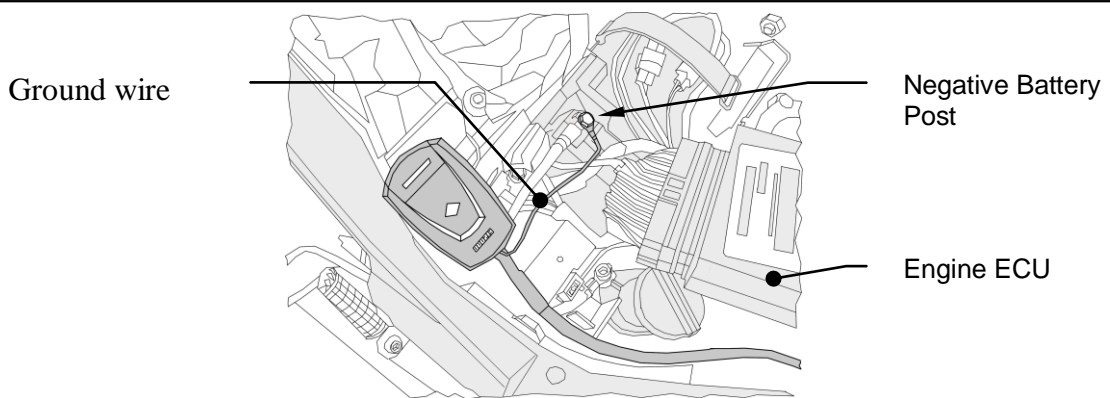

FIGURE 3
4. Unstrap the stock ECU from it location and move to the side to allow access to the battery post. Connect the Fi2000R's ground lead to the *Negative* battery post, (Fig. 3.)
6. Remove the door from the Fi2000R module to expose the LED's. Verify the wire connections by (1) turning on the ignition while watching the 3 LED's. They will all light up for a few seconds, and then go off. This is correct. If you don't see lights, make sure the side stand is up, bike is in neutral, clutch is in and handle bar engine switch is set to run. If you still have no lights, re-check that all connectors are fully engaged and the ground wire is connected correctly. (2) After achieving a steady light from all three LED's, start the motorcycle, the green light should now be the only LED on. If all three LED's are still on after start up, verify you have attached the injector connectors correctly. Reattach the access door when finished. **Note:** Make sure the ignition is turned off before changing any connection.
7. When everything checks out in order, mount the ECU to the stock location and mount the Fi2000R to the top of the ECU with the supplied Velcro, (FIG 3). Zip tie the Fi2000R harness to the right frame rail and existing harness with the supplied zip ties. Reinstall the air cleaner housing. Make sure the Fi2000R harness is not pinched between frame rail and fuel tank grommet. Reinstall fuel tank and seat.